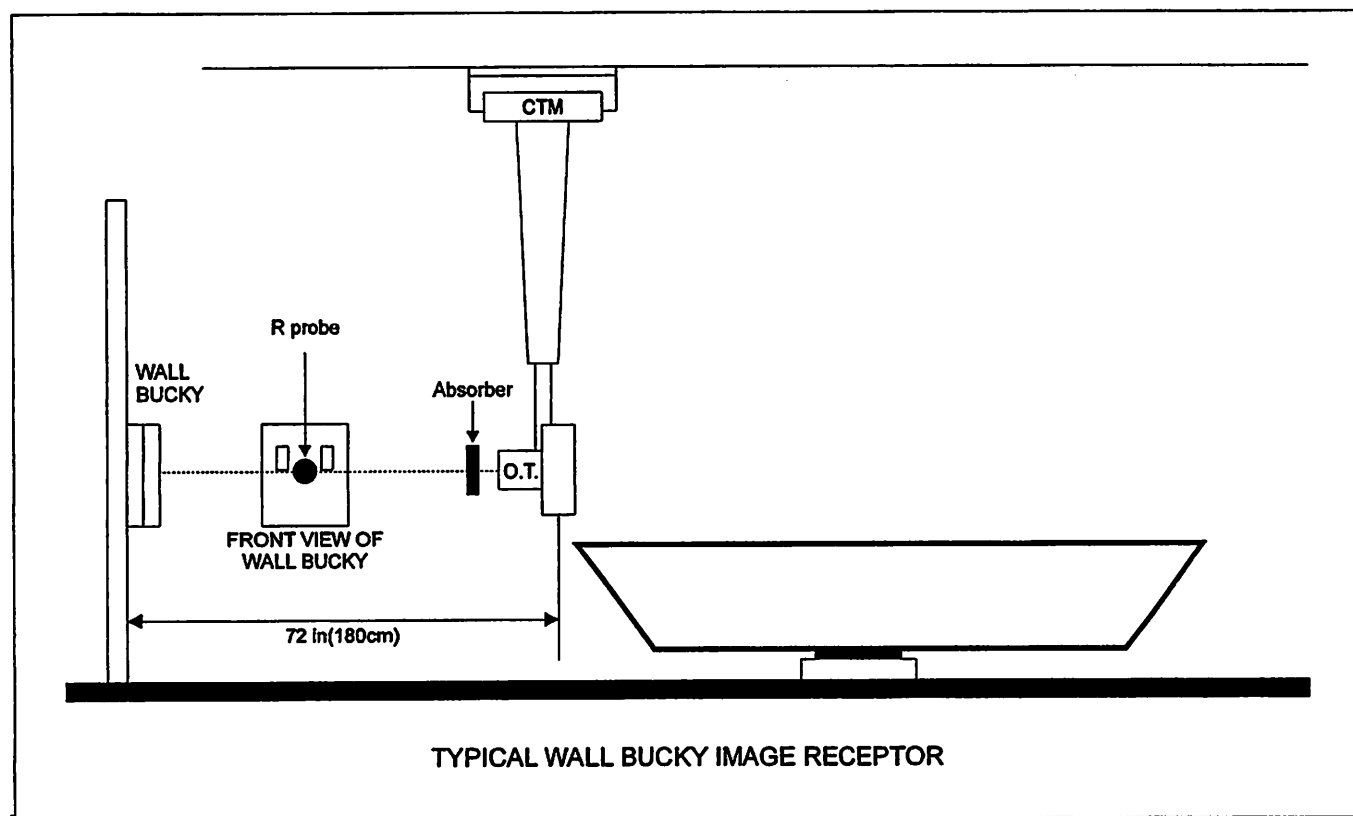

Figure 3D-15: Equipment setup for wall Bucky AEC calibration
1.	Set up the X-ray tube stand as shown in figure 3D-15.